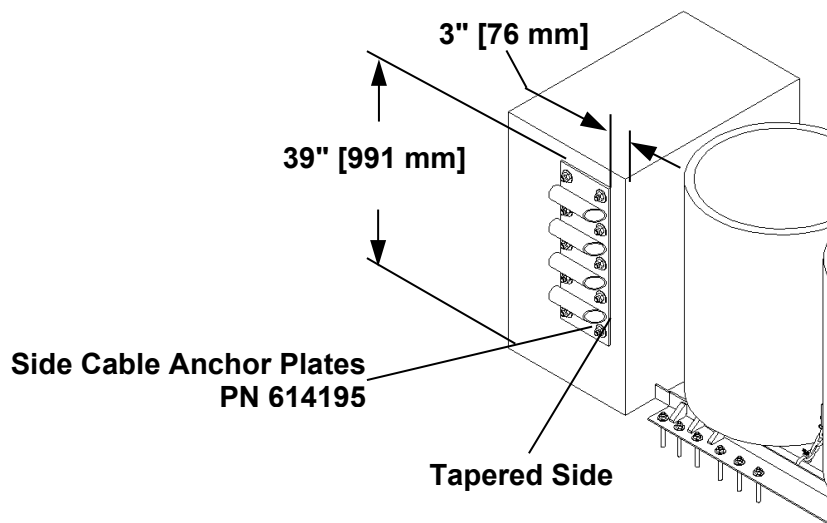

Figure 20 - Side Cable Anchor Plates
When correctly assembled, the top of the Side Cable Anchor Plates should be 39" [991 mm] from the road surface. The front edge of the Side Cable Anchor Plates should be 2" - 4" [51 mm - 102 mm] from the front face of the backup to avoid reinforcing steel. The tapered tubes of the Side Cable Anchor Plates should face the front of the REACT 350® II (Figure 20). Use the holes in the Side Cable Anchor Plates as templates to match drill ten (10) holes per side of backup, 7/8" [22 mm] diameter x 5 1/2" [140 mm] deep into the Concrete Backup. **Use an approved adhesive kit to place twenty (20) 3/4" diameter x 6 1/2" long studs using instructions included with kit.** After adhesive has cured, use 3/4" flat washers and nuts provided with kit to attach side cable anchor plates (one on each side) to Concrete Backup (Figure 20).